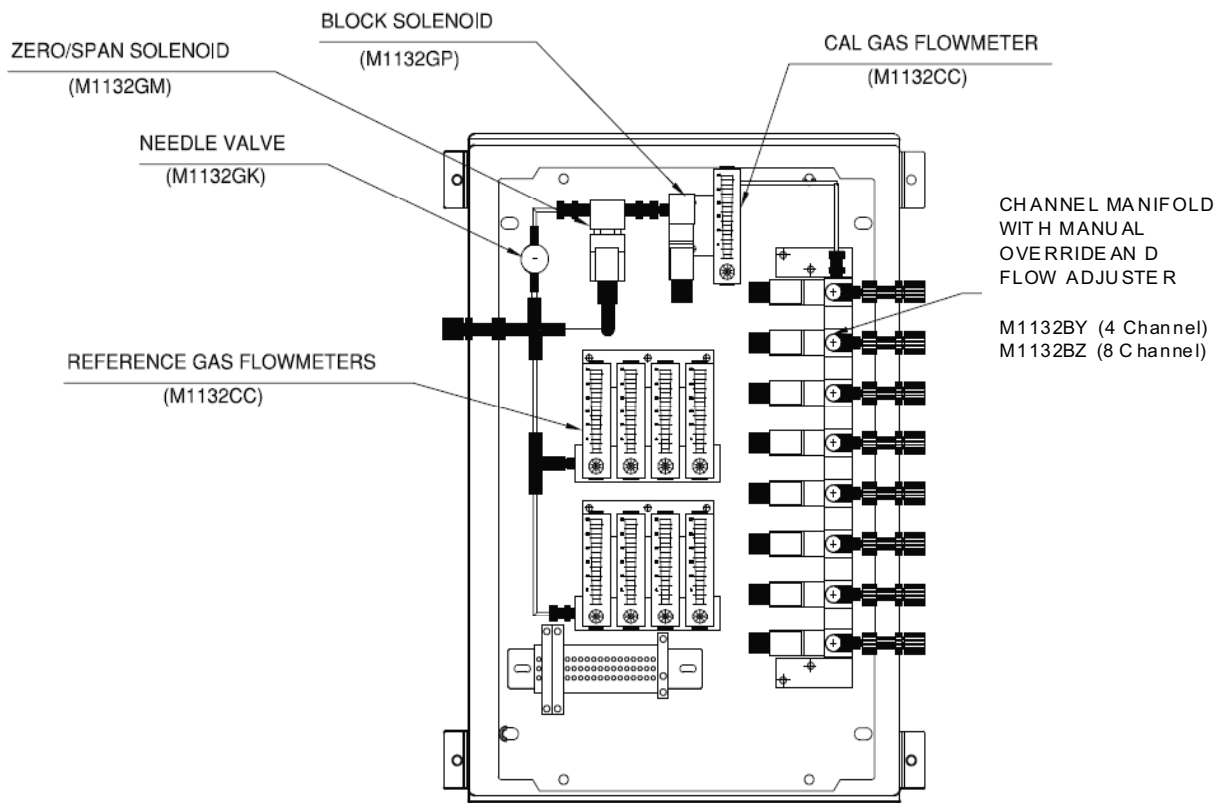
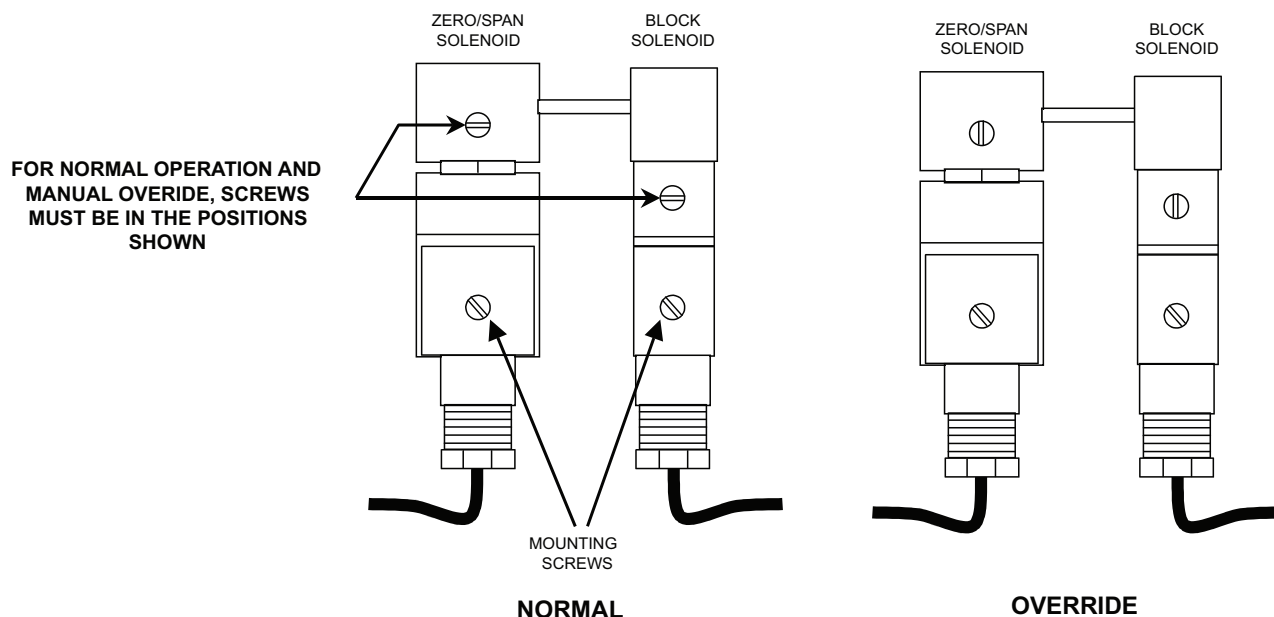
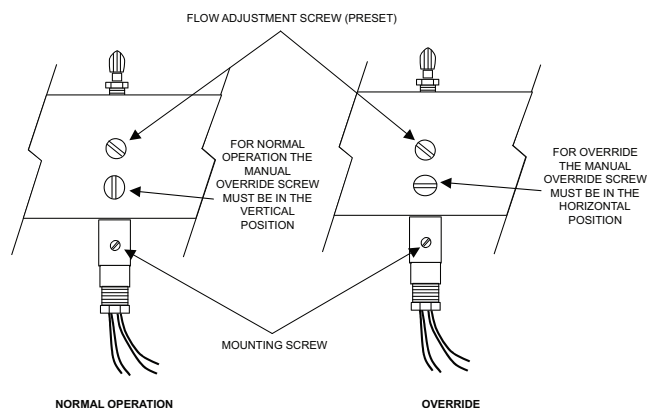

Figure 5.1 AC8 Parts Listing
Figure 5.2: Zero and Block Solenoid
Figure 5.3: Typical Channel Solenoid
3. Locate the block solenoid shown in Figure 5. Using a flat tip screwdriver, turn the manual override screw on the block solenoid to the 90° position as shown in Figure 5.2.
4. Turn the channel solenoid valve’s manual override screw to the horizontal, or ON (NOT NORMAL) position for Uall probes in use. See Figure 5.1 and 5.3.
7. After repairing the leaks, if any, turn all probe channel solenoids and the block solenoid to the NORMAL position as shown in Figure 5.2 and 5.3.
Locate the reference flow air meters in Figure 5.1. Adjust the black flow adjustment knob on each reference air flow meter to 0.8 LPM (800cc/min).
2. Locate the block solenoid shown in Figures 5.1 and 5.3. Using a flat tip screwdriver, turn the manual override screw on the block solenoid to the vertical position, as shown in Figure 5.2.
8. After all flow rates have been set manually to 1 LPM, turn the channel solenoid for the probe with the longest tubing run back ON to the manual override position – making sure all others are **OFF** (normal position shown in Figure 5.3). Turn the cal gas flow meter's adjustment knob to 0.6 LPM (600cc/min).
3. Locate the **cal gas flow meter** in Figure 5.1. Turn the black adjuster knob to the maximum open position. This fully opens the cal gas regulator, allowing precise adjustments of flow rates.
4. Locate the **channel solenoid valve** for the probe with the longest tubing run in Figure 5.1. Turn the manual override screw to the horizontal, or ON position. Refer to Figure 5.3.
5. Each channel has its own flow adjustment screw located on the **channel solenoid valve** as shown in Figure 5.3. Adjust the flow adjustment screw for the probe so that the flow rate shown on the cal gas flow meter is 1 LPM (1000 cc/min).
10. Confirm that all **channel solenoid overrides** for all used probed are turned back to the normal position as shown in Figure 5.3.